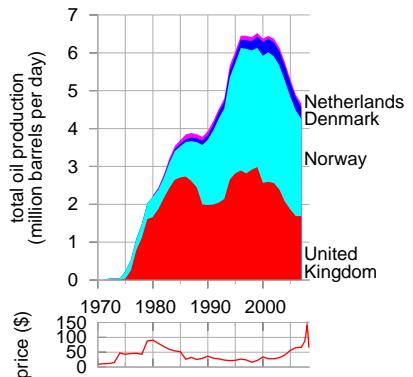

Figure 1.2. Are "our" fossil fuels running out? Total crude oil production from the North Sea, and oil price in 2006 dollars per barrel.
Second, we're interested in security of energy supply. Even if fossil fuels are still available somewhere in the world, perhaps we don't want to depend on them if that would make our economy vulnerable to the whims of untrustworthy foreigners. (I hope you can hear my tongue in my cheek.) Going by figure 1.2, it certainly looks as if "our" fossil fuels have peaked. The UK has a particular security-of-supply problem looming, known as the "energy gap." A substantial number of old coal power stations and nuclear power stations will be closing down during the next decade (figure 1.3), so there is a risk that electricity demand will sometimes exceed electricity supply, if adequate plans are not implemented.
- 5 *Figure 1.2.* This figure shows production of crude oil including lease condensate, natural gas plant liquids, and other liquids, and refinery processing gain. Sources: EIA, and BP statistical review of world energy.